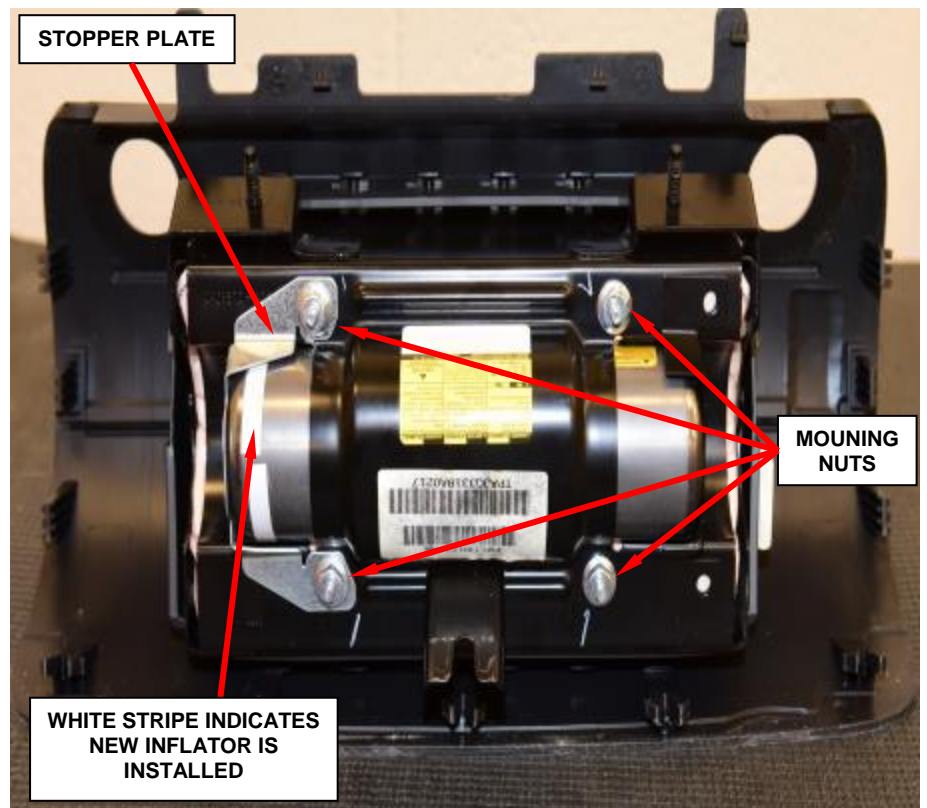

Figure 102 – Retrofit Complete
- h. Passenger airbag retrofit is complete (Figure 102).